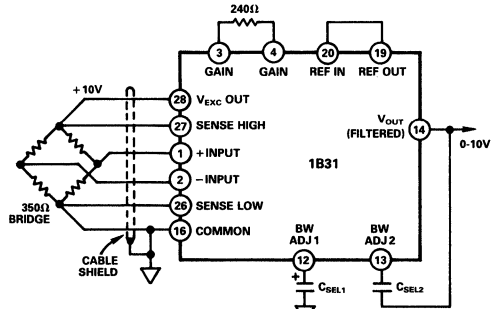

Figure 3. Narrow Bandwidth Application
**Filter Cutoff Frequency Programming:** The low pass filter cutoff frequency is internally set at 1kHz. It may be decreased from 1kHz by the addition of two external capacitors connected as shown in Figure 3 (from Pin 12 to common and between Pins 13 and 14). The values of capacitors required for a desired cutoff frequency, fc, below 1kHz are obtained by the equations below: